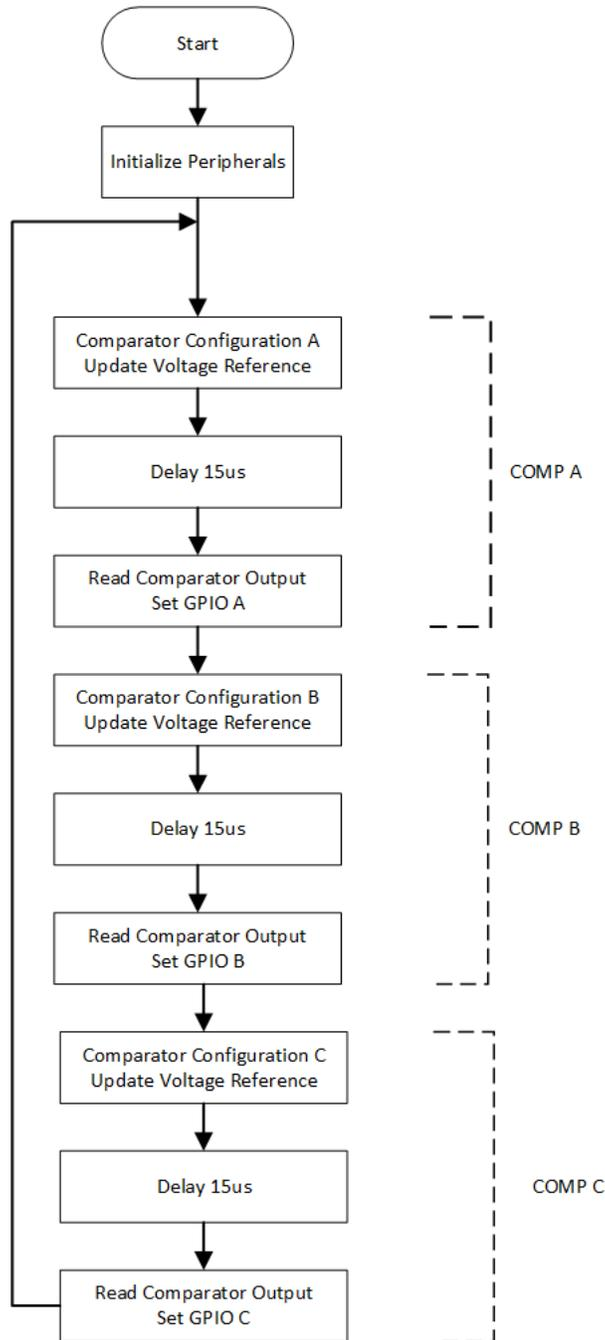

Figure 6-1. Application Software Flow Chart
5. Write application code to call each configuration setting, delay for settling time, and assign the result to the corresponding IO pin. See Figure 6-1 for an overview of the software.